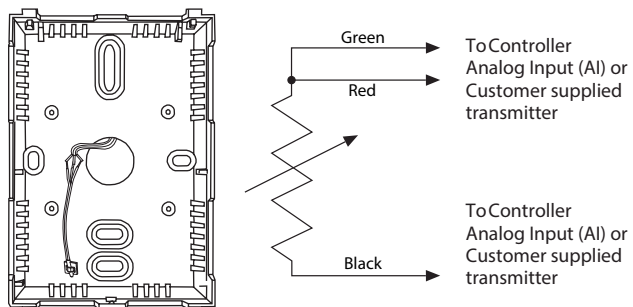

Figure 9
- Connector layout is shown in Figure 9. The diagram shown includes all options, if an option is not ordered, the connector will not be present.